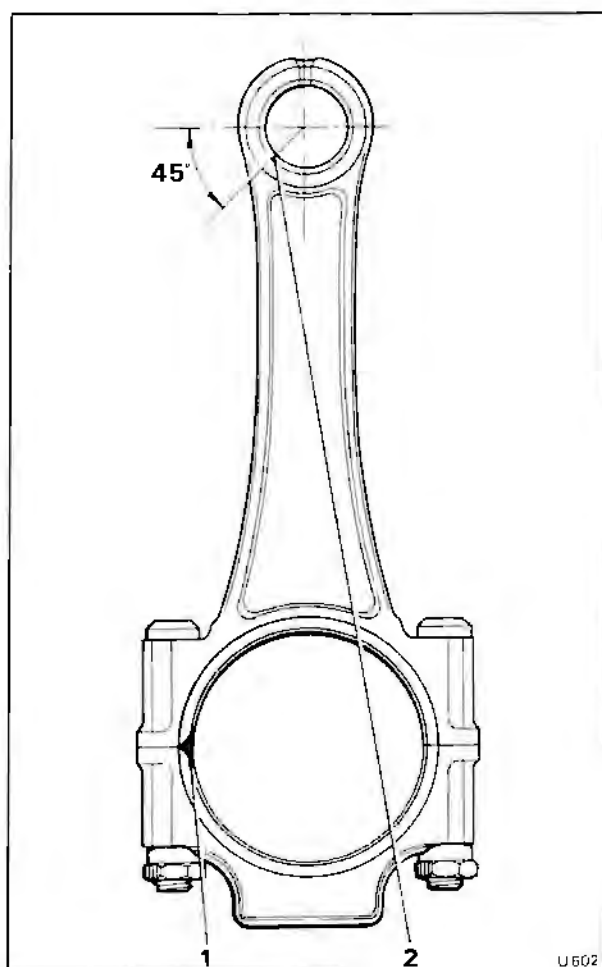

Fig. E6-2 Position of small-end bush
7. Position the new bush so that the chamfered outer edge is towards the connecting rod. Also ensure that the split in the bush is 45° away from the centre axis of the rod and on the same side of the rod as the locating recesses for the big-end bearing shells (see fig. E6-2). In this position the oil hole in the bush should line up with the oil hole in the small-end boss.